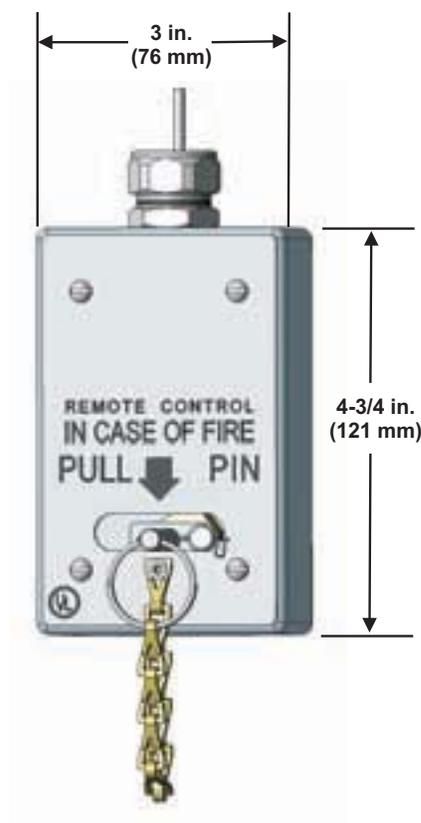

Figure 2-37. Surface Mounted End-of-Line Remote Manual Release, P/N 9197463
- End-of-Line Surface Mounted Remote Manual Control, P/N 9197463 (Figure 2-37)